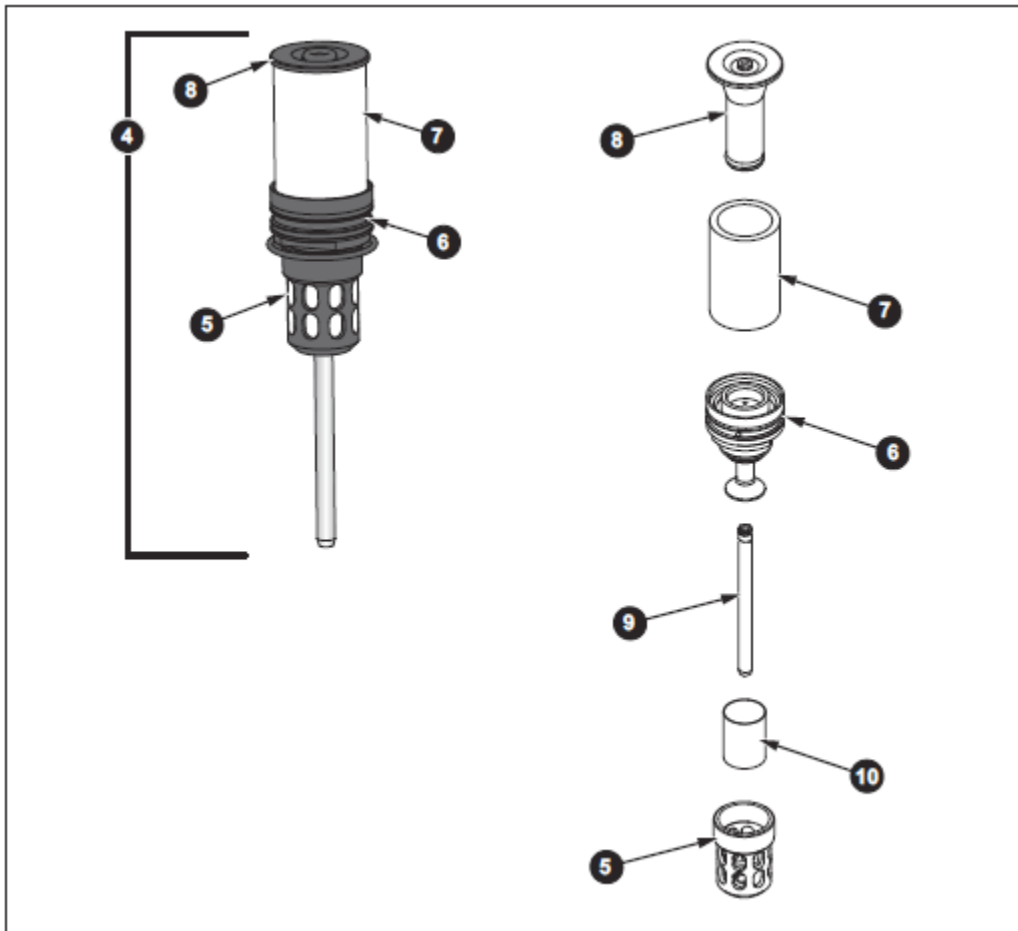

Figure 49. CPS Filter Disassembly
5. To disassemble the filter assembly (see Figure 49), turn the screen retainer (5) counter clockwise to remove it from the filter manifold (6).
6. Pull the filter and retainer from filter manifold while rocking side to side carefully to remove the coalescing filter (7) and filter retainer (8).
7. Remove the purge tube (9) from the filter manifold (6) by pulling them straight apart. It is sealed by a small O-ring on the end of the purge tube.
8. The screen (10) is the part most likely to be contaminated with particulates or liquids/oils. It can be removed from the screen retainer (5) by pulling it out. It is stainless steel and should be cleaned with a solvent (like alcohol), then dried with clean dry air or nitrogen. Remove the screen retainer (5) O-ring also.